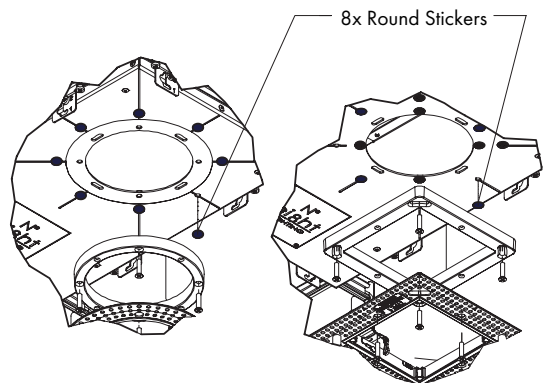

FIG 3.4 Sticker Application
STEP 4 Apply Stickers over unused holes & slots as shown to prevent light leaks & maintain airtight standards compliance. No caulking required – **FIG 3.4.**